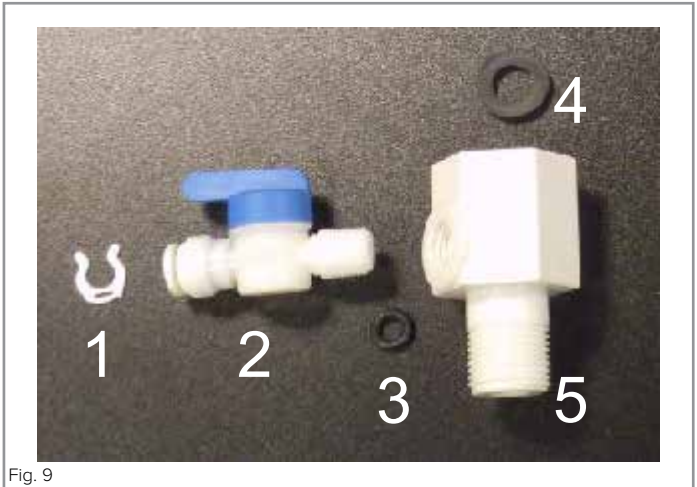

Fig. 9
- To tap into an existing supply, use the 'T' fitting, tap, locking clip, black rubber washer and 'O' ring supplied (Fig. 9).